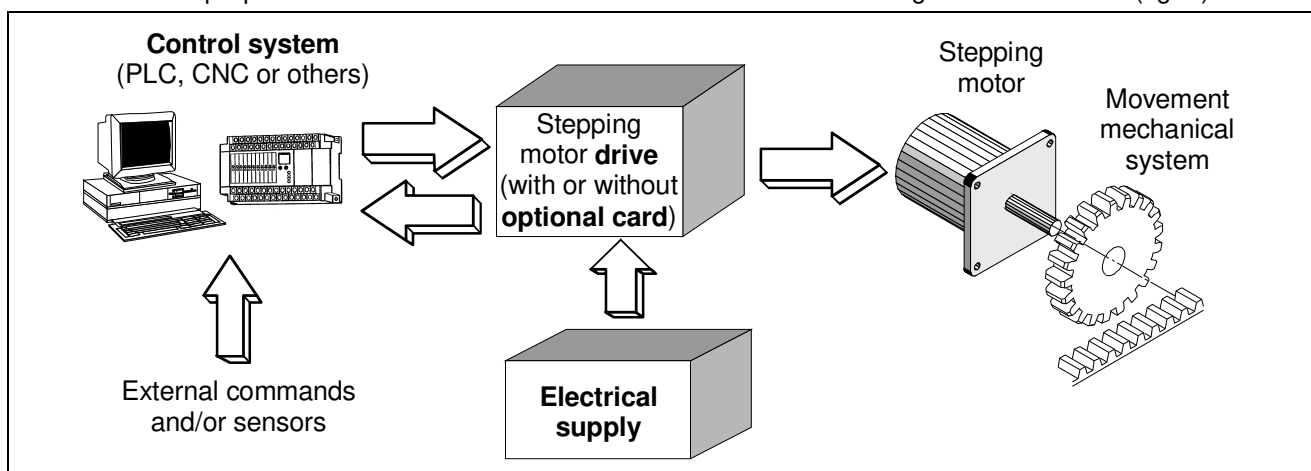

Fig. 1
1.2 - For the purposes of this manual the terms used assume the meaning below described (fig. 1)